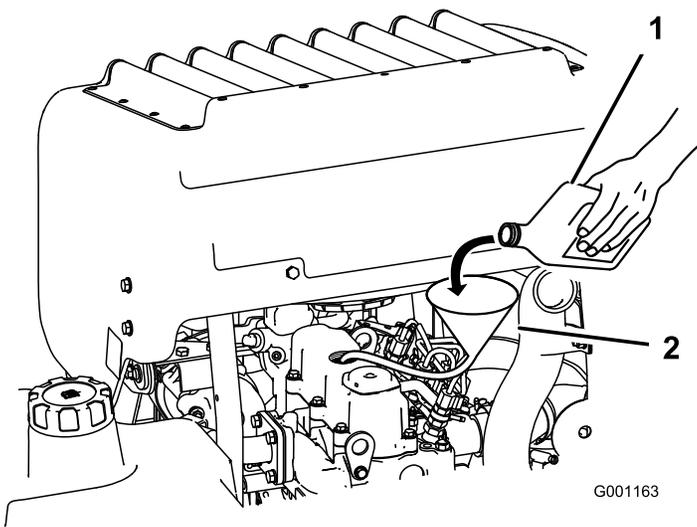

Figure 68
3. Use a hose and funnel to add oil to the engine (Figure 68).